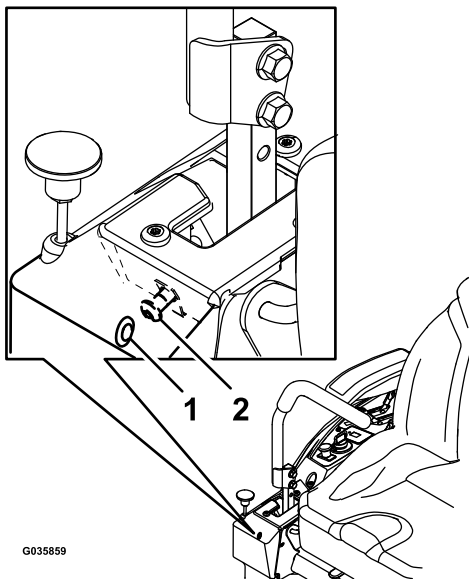

Figure 87
6. If the machine tracks to the right, insert a 3/16 inch hex wrench through the access hole in the right front cover panel and rotate the tracking screw clockwise or counterclockwise to adjust the travel of the lever (Figure 87).
7. If the machine tracks to the left, insert a 3/16 inch hex wrench through the access hole in the right front cover panel and rotate the tracking screw clockwise or counterclockwise to adjust the travel of the lever (Figure 87).